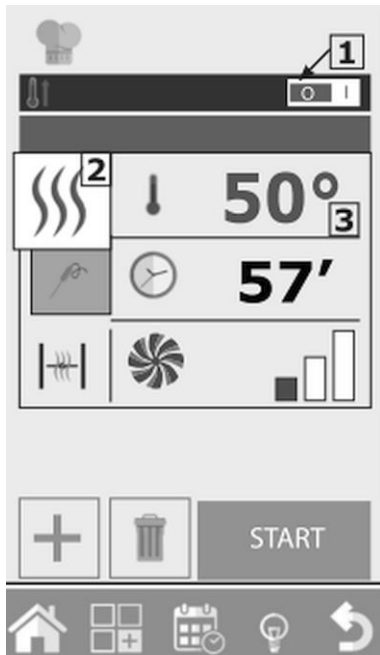
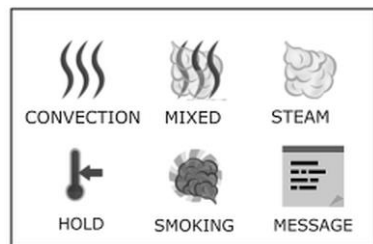
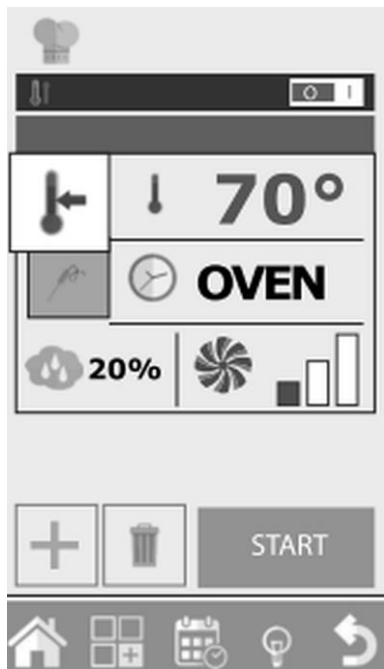

Fig. 10
Fig. 11
Fig. 15
By pressing key 1 (Fig. 10) to the left or right, this function may be enabled or disabled.
Key 2 (Fig. 10) is factory-set as default to **Convection** thermal processing mode. By pressing this key, the thermal processing mode may be changed to **Mixed** or **Steam**. Additionally, you may set the following thermal processing modes: **Hold**, **Message** or **Smoking** (Fig. 11).
By pressing key 3 (Fig. 10) you can set the oven chamber temperature. The temperature that can be set varies depending on the selected thermal processing method.
2. To modify the phase in the 'Hold' mode, press the thermal processing mode key (2, Fig. 10) and select HOLD symbol (Fig. 15).